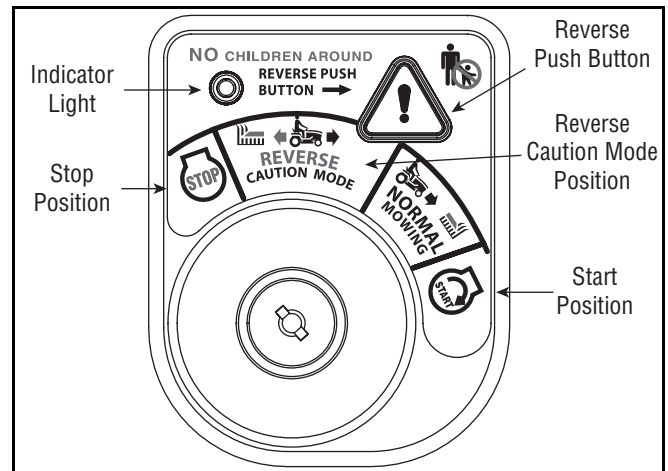

Figure 13
2. Turn the key from the **NORMAL MOWING** (Green) position to the **REVERSE CAUTION MODE** (Yellow) position of the key switch module. See Figure 13.
3. Depress the **REVERSE PUSH BUTTON** (Orange, Triangular Button) at the top, right corner of the key switch module. The red indicator light at the top, left corner of the key switch module will be **ON** while activated. See Figure 13.